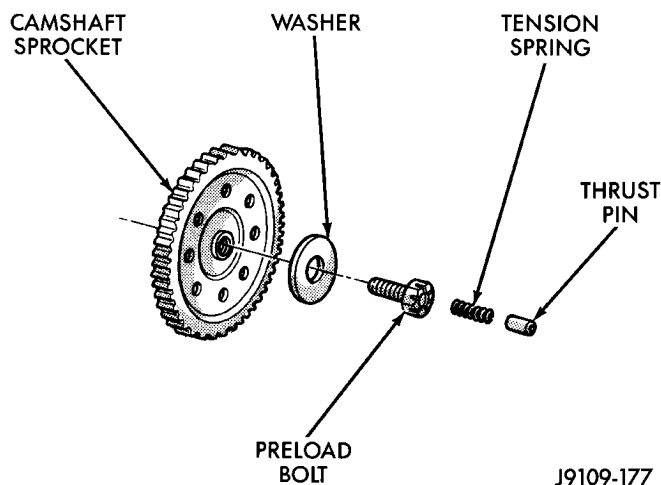

Fig. 43 Camshaft Sprocket Preload Bolt
- (7) Remove the oil slinger from the crankshaft.
- (8) Remove the tension spring and thrust pin from the preload bolt (Fig. 43). Remove the camshaft sprocket retaining preload bolt and washer.
(1) Apply Mopar Silicone Rubber Adhesive Sealant to the keyway in the crankshaft and insert the key. With the key in the keyway on the crankshaft, install the assembly on the crankshaft and camshaft.
(2) Install the camshaft sprocket retaining preload bolt and washer (Fig. 43). Tighten the preload bolt to 108 N·m (80 ft. lbs.) torque.
- (4) Install the crankshaft oil slinger.
- (5) Replace the oil seal in the timing case cover.
- (6) Lubricate the tension spring, thrust pin and pin bore in the preload bolt with Mopar Engine Oil Supplement, or equivalent. Install the spring and thrust pin in the preload bolt head (Fig. 43).
- (7) Install the timing case cover and gasket.
- (8) With the key installed in the crankshaft keyway, install the vibration damper, washer and bolt. Lubricate and tighten the bolt to 108 N·m (80 ft. lbs.) torque.
- (9) Install the serpentine drive belt and tighten to the specified tension (refer to Group 7, Cooling System for the proper procedure).
- (10) Install the fan and hub assembly. Install the shroud.
- (11) Connect negative cable to battery.